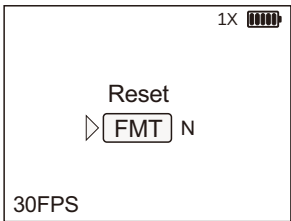

Fig 19
b. From the Set menu, press the  button to select FMT(Format). Press the  button to enter the FMT settings interface. Press the  or  buttons to select N or Y. Selecting Y (Yes) will format the internal storage. To exit, press and hold the  button to return to the previous menu. (See Figure 19)